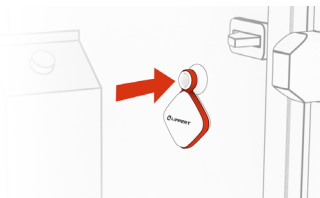

Fig.15
4. Attach to the clean surface (Fig.15).